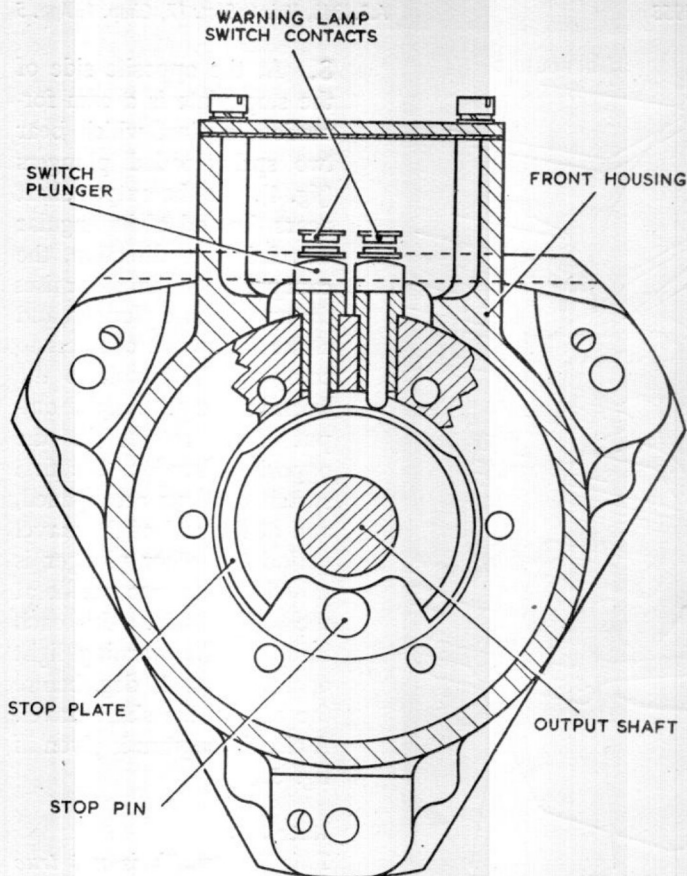
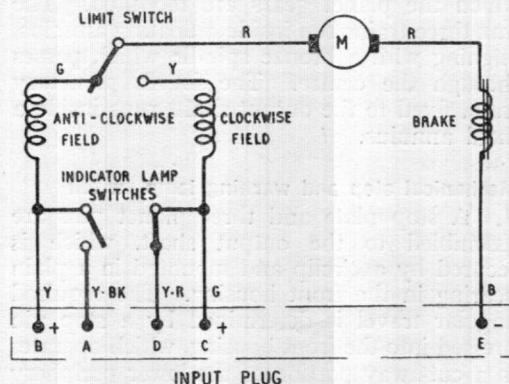

Fig. 4. Typical output shaft cam profile
Fig. 5. Typical wiring diagram
8. At the opposite side of the stop plate is a cam formation, against which bear two spring-loaded plungers (fig. 4). As the output shaft nears the end of its angular travel in one direction, the cam profile on that side raises the appropriate plunger, and closes the switch contacts to complete the circuit to the warning lamp. As the output shaft rotates in the opposite direction, the first switch contacts are opened, and at the end of the travel period the other plunger is raised by the cam profile at the other side. In each instance, the warning light operates 8 to 10 deg. before the end of the shaft travel. A circuit diagram is given in fig. 5.